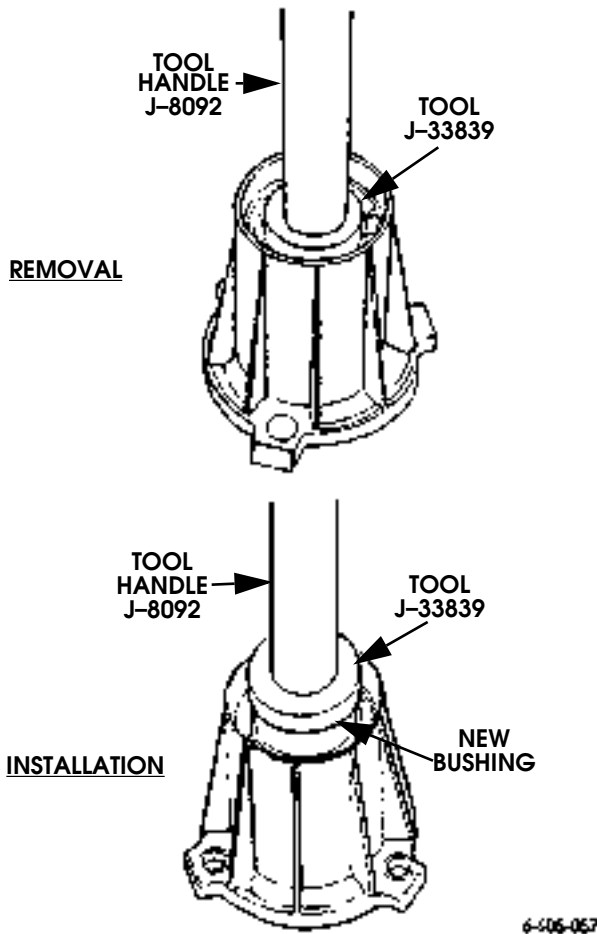

Figure 5-126: Extension Housing Bushing Replacement
2. Drive out old bushing with tool handle J-8092 and tool J-33839 (Figure 5-126).